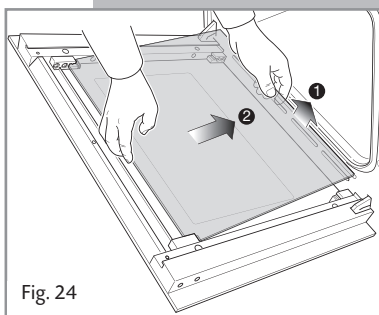

Fig. 24
- Gently lift the bottom edge of the pane (arrow 1 in fig. 24) and remove it by pulling it out from the top clamps (arrow 2 in fig. 24).